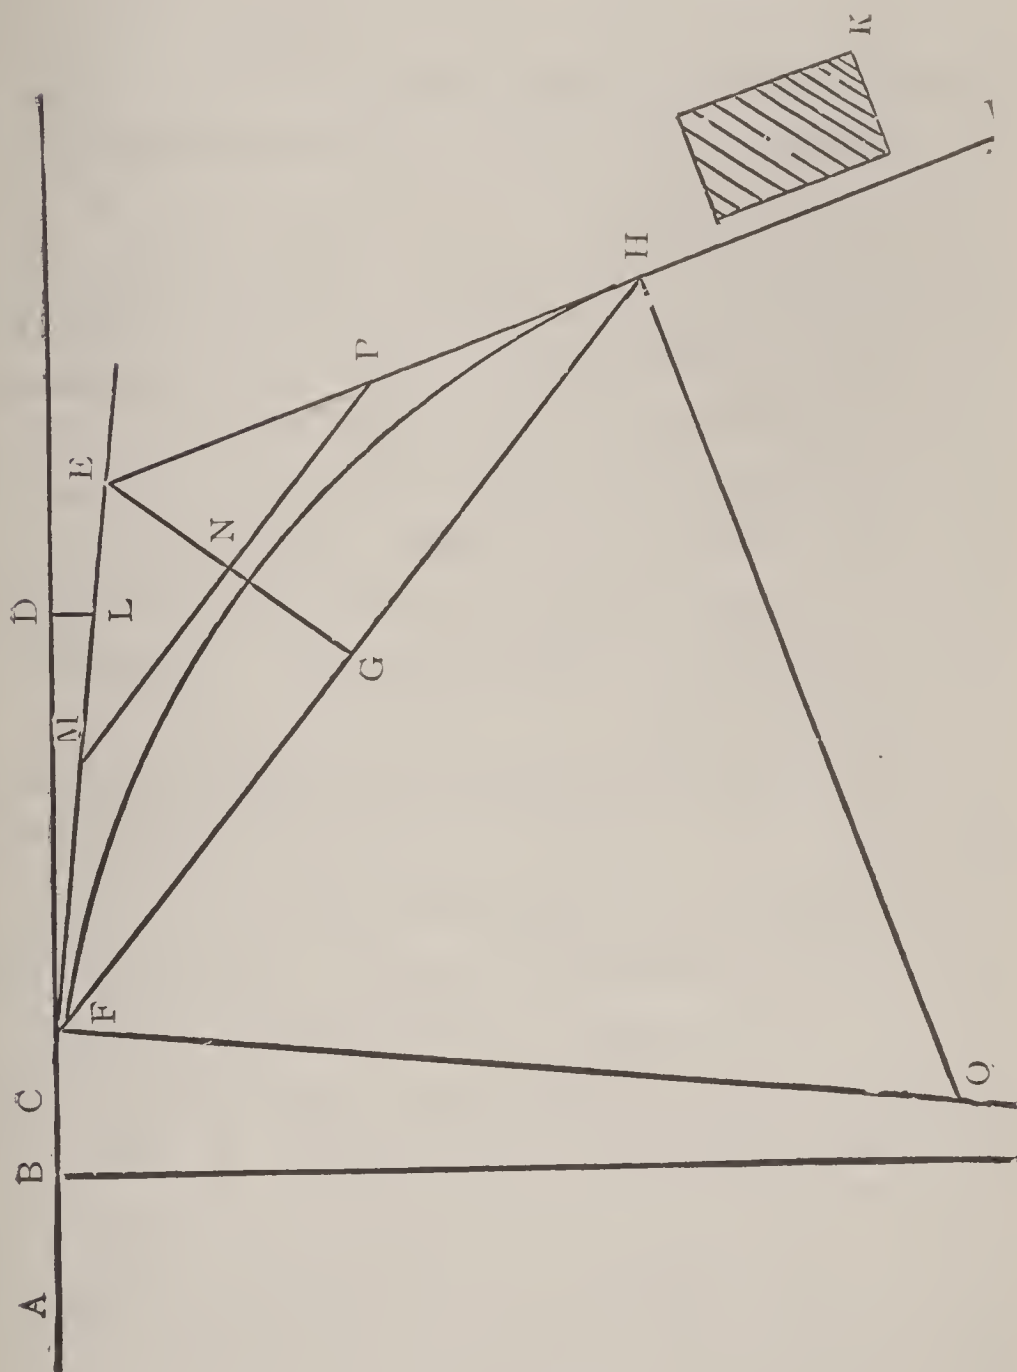

Fig. 22.
8. In Fig. 22, it is required to lay a permanent track to a warehouse at  $K$ , from main line,  $A\ D$ .